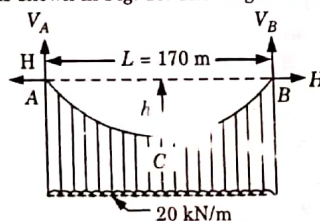

Fig. 10. Given cable.
1. The cable is shown in Fig. 10. The length of the cable ' l ' is given by,